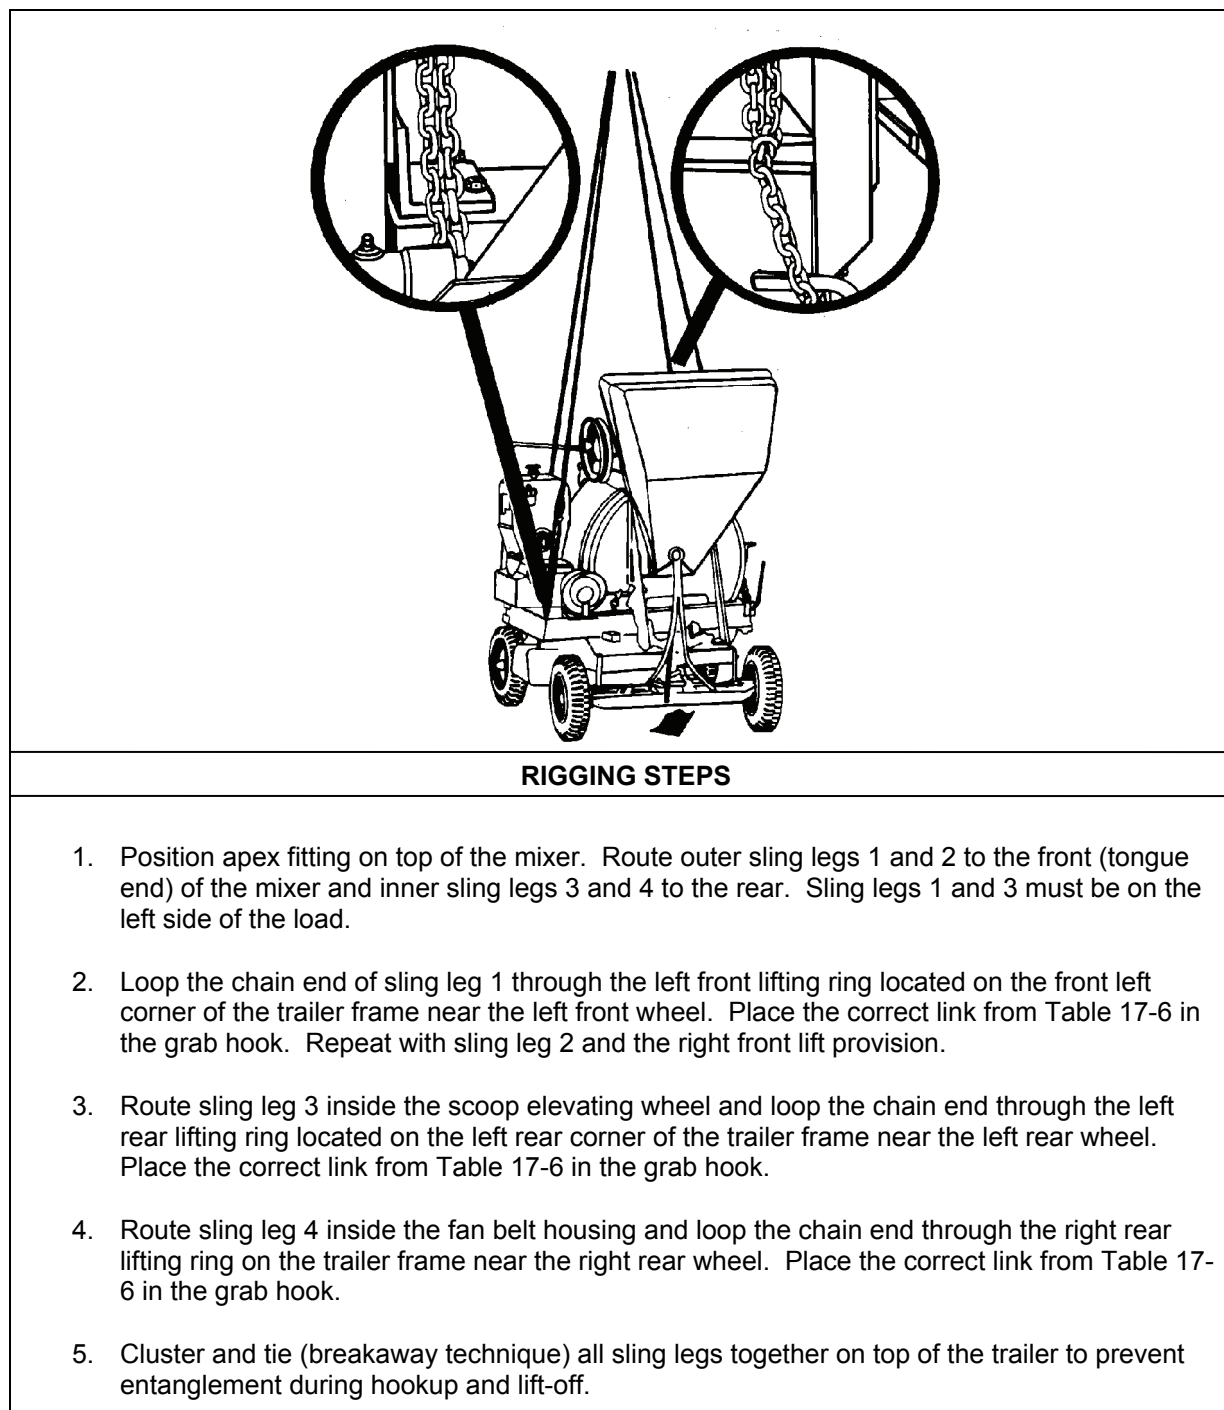

Figure 17-6. 16SM Concrete Mixer
- **Rigging.** Rig the load according to the steps in Figure 17-6.